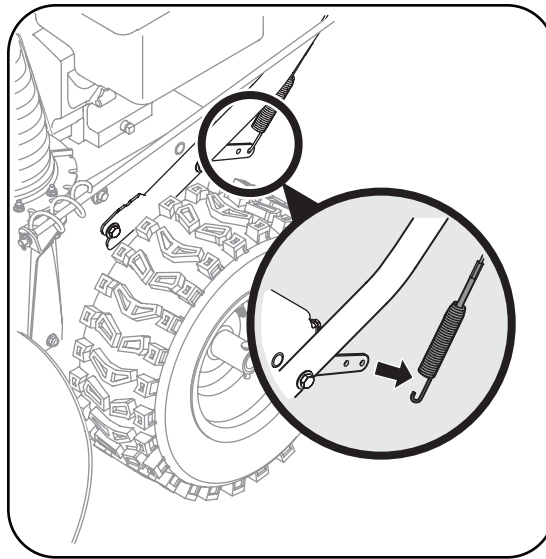

Figure 12
- When the auger control is released and in the disengaged “up” position (see Figure 11B), the cable should have very little slack, but should NOT be tight. See Figure 12.
- To readjust the control cable, unhook the spring (found on the end of the auger cable) from the auger actuator bracket. See Figure 12.